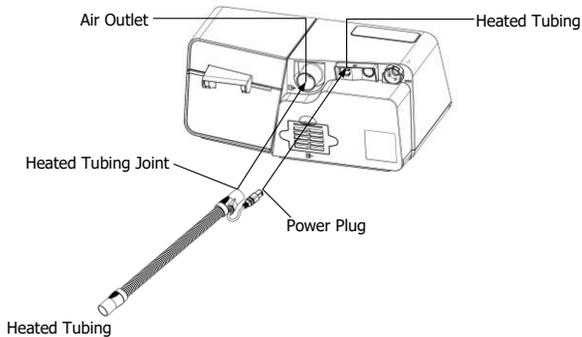

Fig. 12-8
(2) Connect the heated tubing joint to the air outlet of the device, and then insert the power plug into the heated tubing port on the back of the device, as shown in Fig. 12-8.